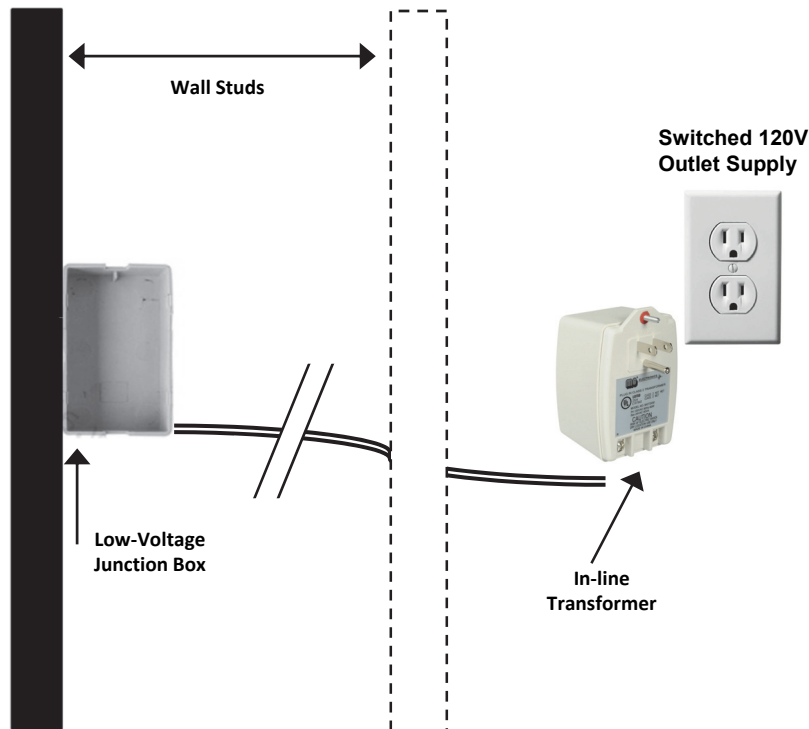

Figure 1. Locating the junction box and running low-voltage wires from the transformer (front view).
4. Install junction box per manufacturers instructions. (see Figure 1).
1. Run power supply wires from the provided low-voltage transformer to the opening at the mirror location. The power supply wires are run in the wall (see Figure 1).